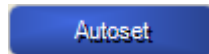

Figure 1-21: The Autoset Button
13. Click the **Autoset** button in the Channel Editor, as shown in Figure 1-21.